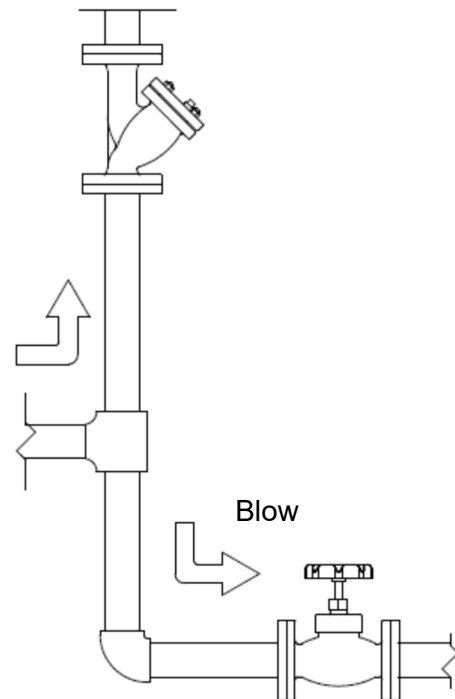

Fig.3
- (3) If the product can only be piped to run the fluid from the bottom to the top, a blow valve shall be installed to remove the scale accumulated at the bottom of the riser pipe. (See Fig.3)